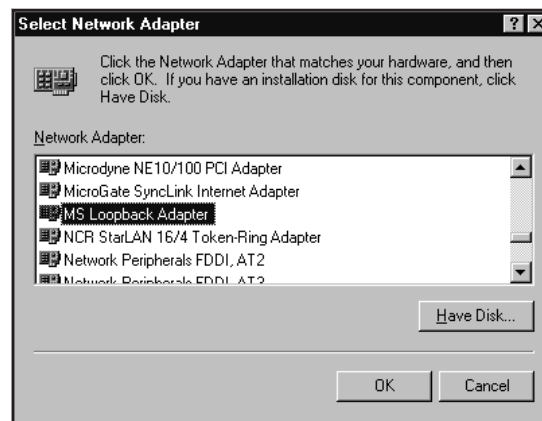

Figure 196 Select Network Adapter
2. Only two network components require installation for Genie 2000. First, a network adapter must be added. If your computer does not contain a network adapter card, then an MS Loopback Adapter must be added. Click on the Adapters notebook tab (this brings up the Network Adapters selection page); click on the **Add** button to bring up the dialog in Figure 196.